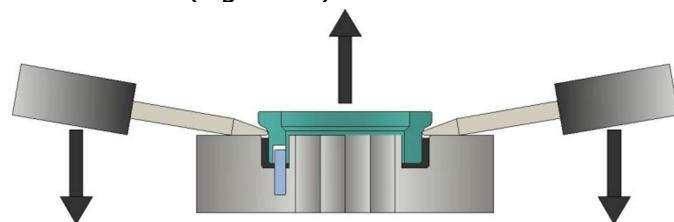

Figure 22 - Seal removal from rotor
- Only remove the rotary seal seat (80) from the back of the rotor (56) if you intend to fit a new seal or L cup rubber (83). Gently prise out the seat from the rotor using two soft levers to avoid scratching rotor and damaging seal face. (Figure 22).